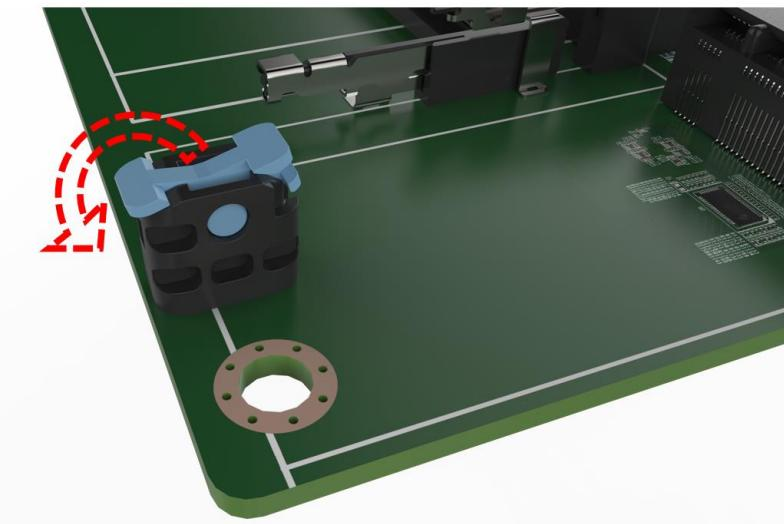

Figure 3-4: Press the end of the M.2 retaining clip
Step 3: Press the end of the M.2 retaining clip. As shown in Figure 3-4.